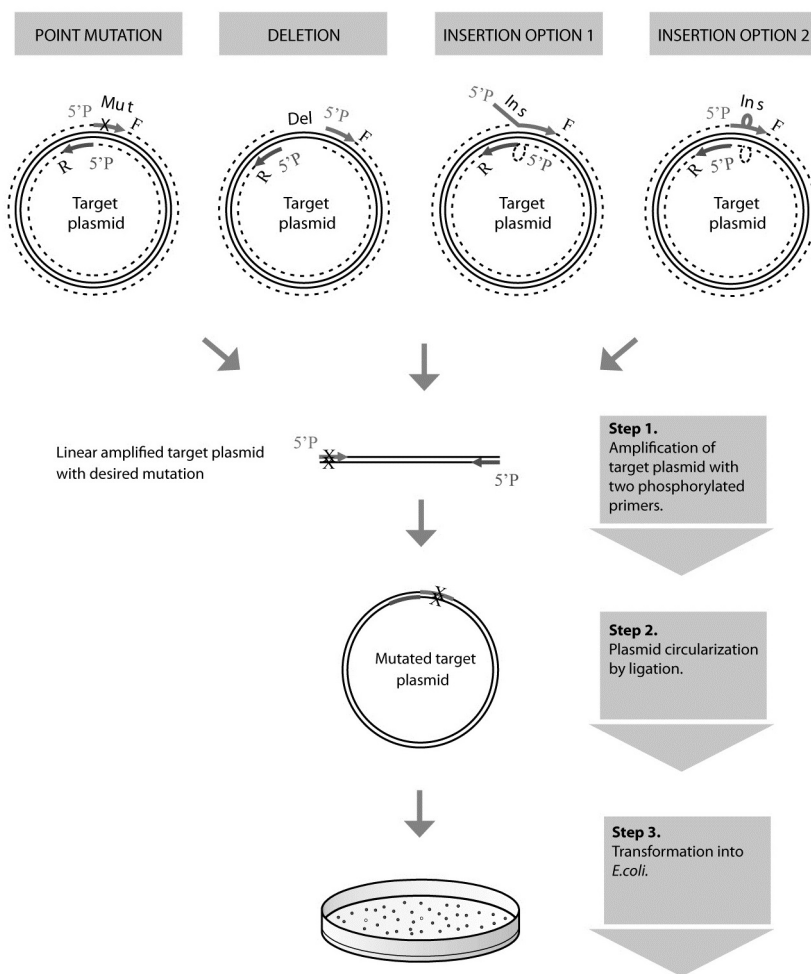

Figure 1. Flow chart of the Phusion Site-Directed Mutagenesis Kit protocol.
1. PCR amplification of target plasmid with two phosphorylated primers. The primers, one or both with desired mutation(s), are designed so that they anneal back to back to the plasmid (for schematic presentation, see Fig. 1).
The primer design depends on the type of the desired mutation. Both primers need not to be mutagenic. However, if two separate mutations are desired, two mutagenic primers are needed (see Fig. 1 for a schematic presentation).
See Fig. 1 for a schematic presentation on how to introduce different types of mutations.
Deletions are created by designing primers that border the deleted area on both sides (see Fig. 1, Deletion, for a schematic presentation). To generate a deletion, the primers should be perfectly matched on their entire length, which should be 24–30 nucleotides. See page 2 for instructions on determining the annealing temperature.
1. For longer insertions, a stretch of mismatched nucleotides is designed in the 5' end(s) of one or both primers (see Fig. 1, Insertion option 1, for a schematic presentation). If mismatched stretches are designed in the 5' ends of both primers, they form one entire insertion when the ends of the PCR product are ligated. The T_m 's should be calculated for the perfectly matched portion of the primers. See page 2 for instructions on determining the annealing temperature.
2. For short insertions, a stretch of mismatched nucleotides is designed in the middle of the primer (see Fig. 1, Insertion option 2, for a schematic presentation). The length of the correctly matched sequence in the mutagenic primers should be in average 24–30 nucleotides. The desired insertion should be in the middle of the primer with 10–15 perfectly matched nucleotides on each side. See page 2 for instructions on determining the annealing temperature.